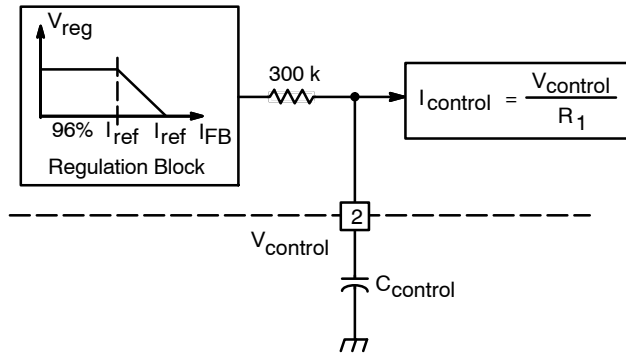

Figure 30.  $V_{control}$  Low-Pass Filtering
Control current  $I_{control}$  is a roughly constant current that comes from the PFC output voltage  $V_{out}$  that is a slowly varying signal. The bandwidth of  $I_{control}$  can be additionally limited by inserting an external capacitor  $C_{control}$  to the control voltage  $V_{control}$  pin (Pin 2) in Figure 30. It is recommended to limit  $f_{control}$ , that is the bandwidth of  $V_{control}$  (or  $I_{control}$ ), below 20 Hz typically to achieve power factor correction purpose. Typical value of  $C_{control}$  is between 0.1  $\mu$ F and 0.33  $\mu$ F.
Feedback current  $I_{FB}$  which represents the output voltage  $V_{out}$  is processed in a function with a reference current ( $I_{ref} = 200 \mu\text{A}$  typical) as shown in regulation block function in Figure 32. The output of the voltage regulation block, low-pass filter on  $V_{control}$  pin and the  $I_{control} = V_{control} / R_1$  block is in Figure 30 is control current  $I_{control}$ . And the input is feedback current  $I_{FB}$ . It means that  $I_{control}$  is the output of  $I_{FB}$  and it can be described as in Figure 32. There are three linear regions including: (1)  $I_{FB} < 96\% \times I_{ref}$ , (2)  $96\% \times I_{ref} < I_{FB} < I_{ref}$ , and (3)  $I_{FB} > I_{ref}$ . They are discussed separately as follows: